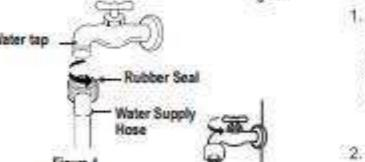

Figure 4
2. Connect the water supply hoses to the HOT and COLD water faucets making sure that the rubber seal is in proper position. (Figure 4)